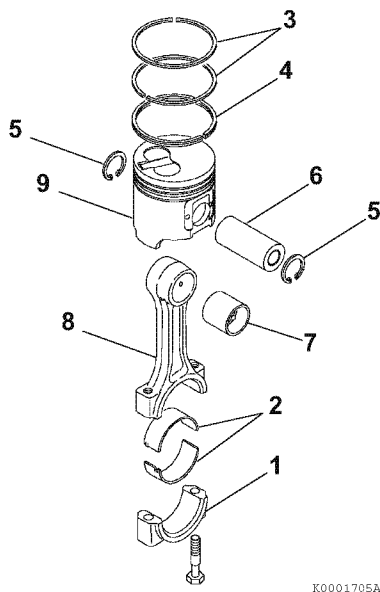

Figure 6-55
11. Remove the bearing inserts (2, **Figure 6-55**).
12. Remove the compression rings (5, **Figure 6-55**) from the piston using a piston ring expander.
13. Remove the oil ring (4, **Figure 6-55**) from the piston using a piston ring expander.
14. Remove the circlips (5, **Figure 6-55**) from the wrist pin.
15. Remove the wrist pin (6, **Figure 6-55**) and connecting rod (8, **Figure 6-55**) from the piston (9, **Figure 6-55**).